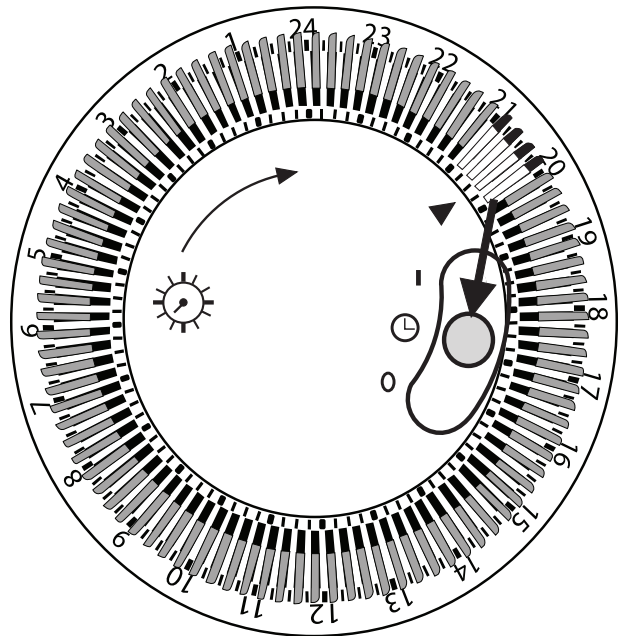

Fig 2
2. Fit the wheels assemblies onto the radiator by placing the U-shaped bolts between the outermost fins on each side of the radiator **(see Fig.2 - 4)**.
3. Move the timer switch to symbol “ ☹ ” to enable the timer (**Fig 2**).